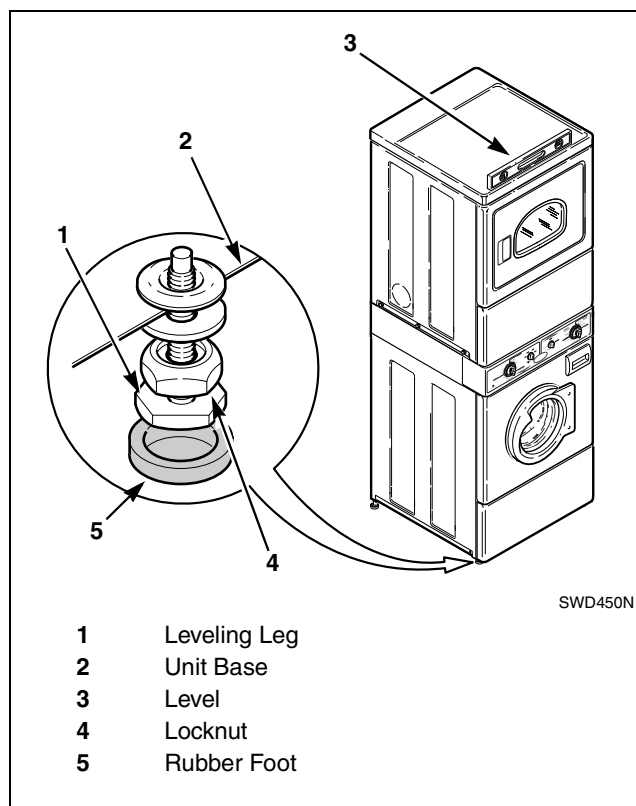

Figure 15
**NOTE: Level must rest on raised portion of top panel. Refer to Figure 15.**